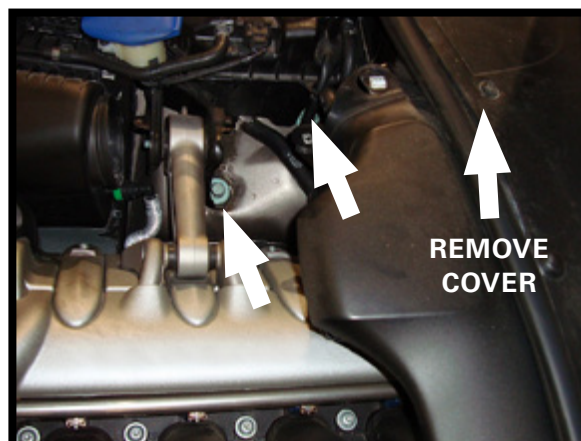

FIGURE 10-8
9. LIFT HOOD AND REMOVE THE THREE (3) MOUNTING BOLTS THAT SECURE THE AIR STRUT'S UPPER MOUNT. REMOVE PLASTIC COVER TO GAIN ACCESS TO THE THIRD BOLT. (FIGURE 10-8)